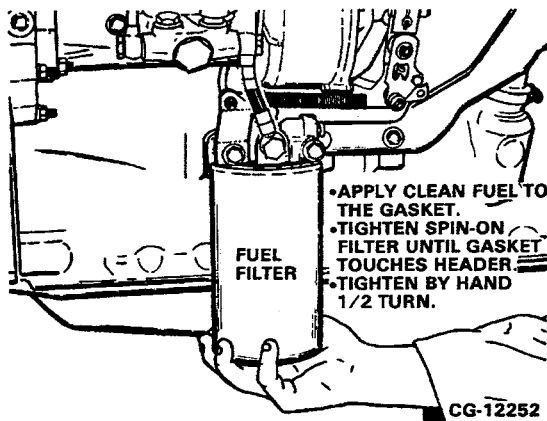

Figure 11.139. Install a New Fuel Filter
14. Install a new fuel filter as follows: (Refer to Figure 11.139)